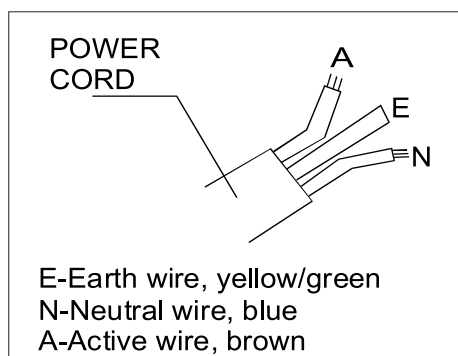

Fig.1
1. Power cord conductors are distinguished according to colour as follows (see Fig.1)